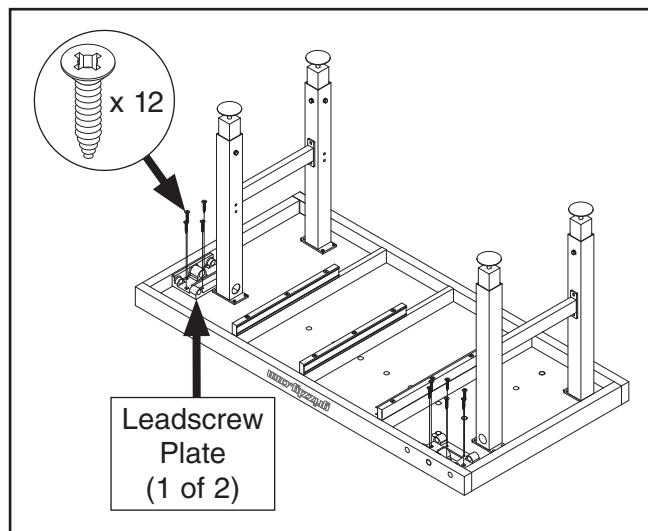

Figure 15. Installing leadscrew plates.
17. Secure leadscrew plates (see **Figure 15**) to underside of workbench top with (12) #8 x 1" wood screws.